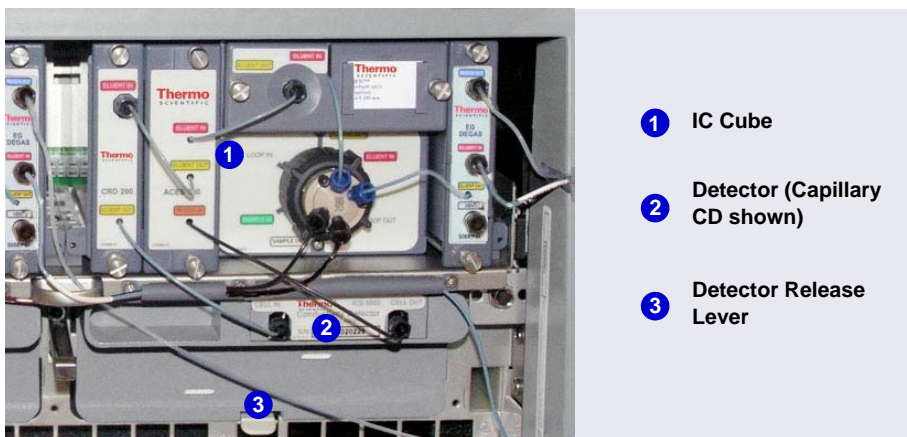

Figure 3-5. Example DC Upper Compartment with Capillary IC Components Installed for System #2
Figure 3-5 is an example of the upper compartment of a DC after the components for a capillary IC system have been installed and the plumbing is completed.
2. Insert the capillary CD (P/N 072041) or ED (P/N 072042) into the upper compartment of the DC (see Figure 3-5).
1. Press the release lever located below the detector (see Figure 3-5).